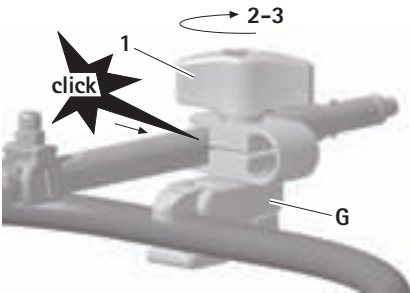

Fig. 7
- Click the coupling bar **B** or connecting piece with the quick-release coupling **A** into the jaw piece of the fastening clamp **G** and place it in the desired position, see Fig. 7.